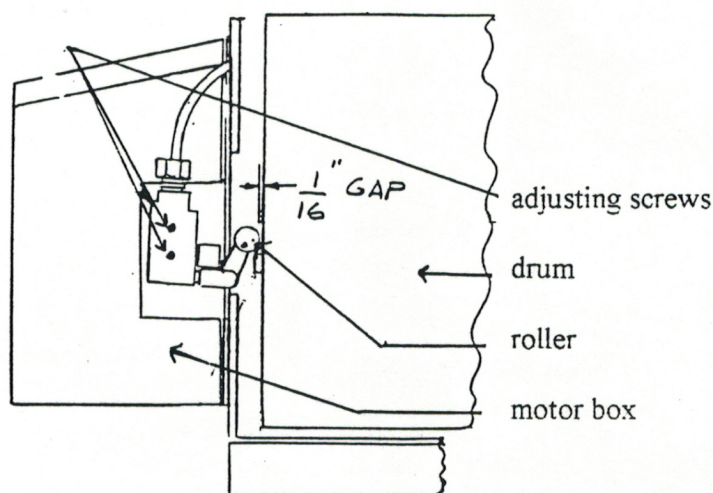

Figure 9 Schematic of stop switch, screws and nut (side view)
8. With the Allen wrench and the open-end wrench, loosen the nut on the side of the stop switch (see Figure 9).
9. Slide the switch up or down to the desired position. Be sure that the switch roller is approximately 1/16" away from the side of the drum (see Figure 9).